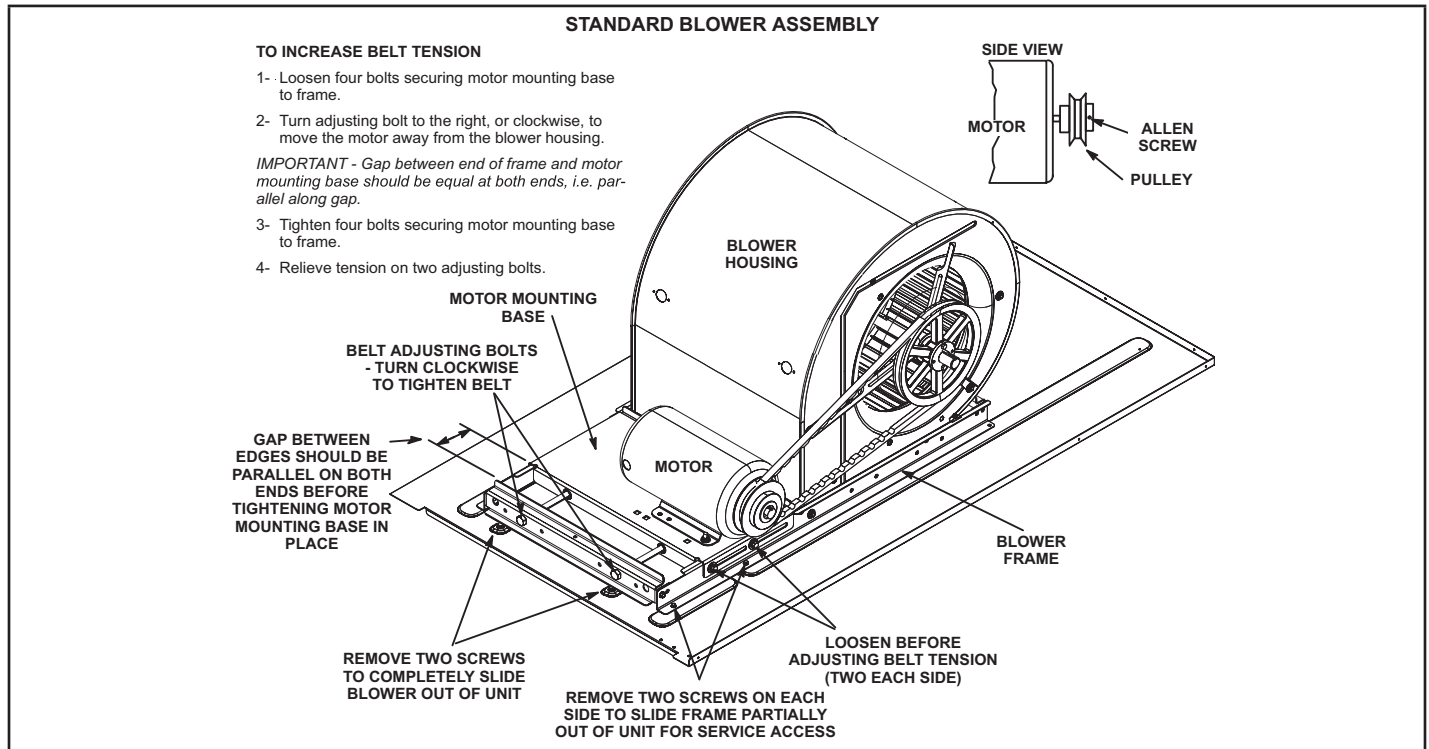

FIGURE 11
The blower assembly is secured to a sliding frame which allows the blower motor to be pulled out of the unit. See FIGURE 11.
- 4 - The blower RPM can be adjusted at the motor pulley. Loosen Allen screw and turn adjustable pulley clockwise to increase CFM. Turn counterclockwise to decrease CFM. See FIGURE 11. Do not exceed minimum and maximum number of pulley turns as shown in TABLE 6.
- 1 - Loosen four bolts securing motor base to mounting frame. See FIGURE 11.